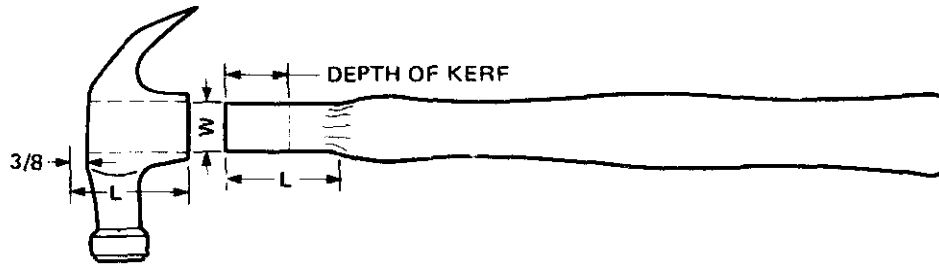

Fig. 11-17 Fitting hammer handle.
4. Shape the end to a slight taper so that it can be worked into the head about  $\frac{3}{8}$  inch beyond the width of the head. See figure 11-17. The end should be shaped so that it is aligned with the rest of the handle.